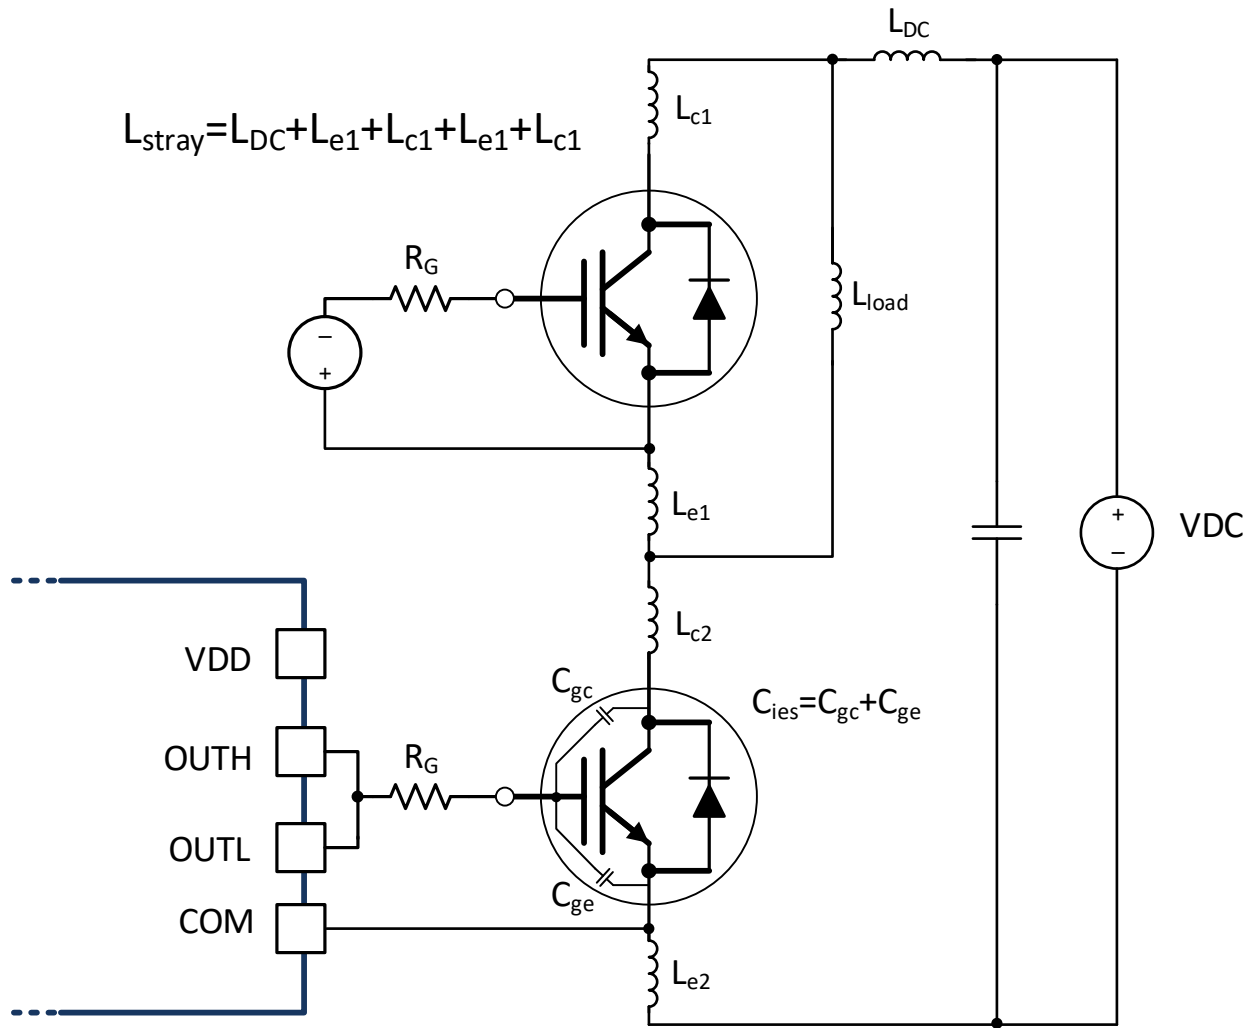

Figure 54. Stray Parasitic Inductance of IGBTs in a Half-Bridge Configuration
- L_{stray} is the stray inductance in power switching loop, as shown in Figure 54